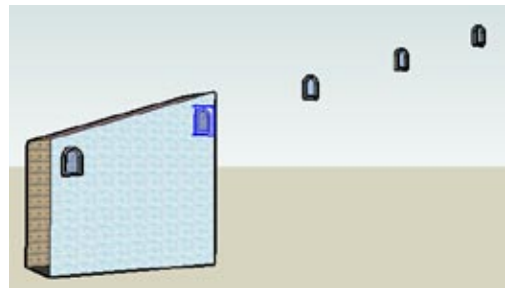

Figure 1-38
- You can change your mind and use an internal array as shown in Recipe 1.2. Just enter the distance between the first and last windows. The distance in this example is 50 feet. You will still have the same number of windows as before, but they will be spaced so that only two appear on the building (Figure 1-38). You may have to zoom out to see the rest of the windows.